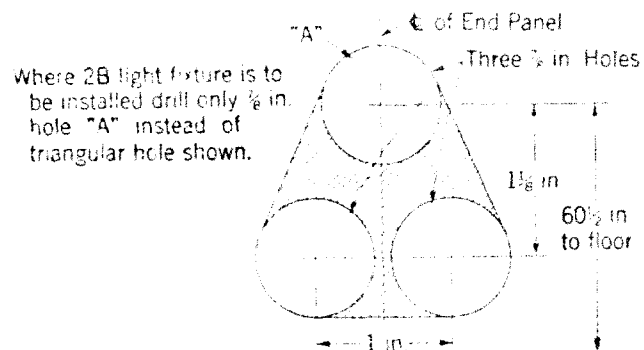

Fig. 6
3.07 Dimensions for locating 2B, 2C or 2D light fixture on end panel and for mounting KS-5474 or KS-8164 fan bases on booth ceilings are shown in Figs. 6, 7 and 8.